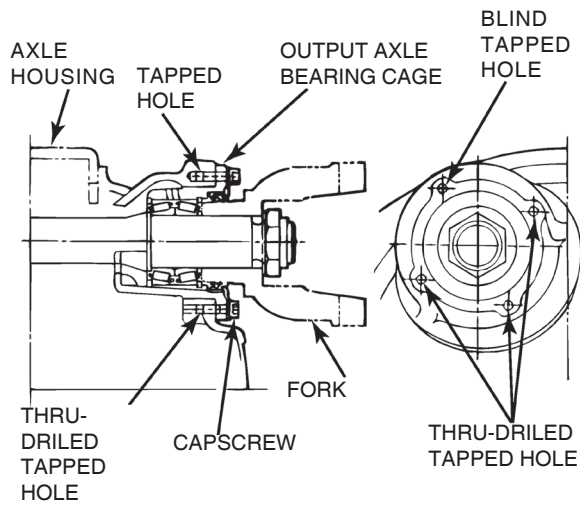

Figure 5.111
9. Apply a 0.25-inch (6 mm) length bead of Loctite 518 sealant in the thru-drilled tapped holes located at the two, five and eight o'clock positions. Figure 5.111.